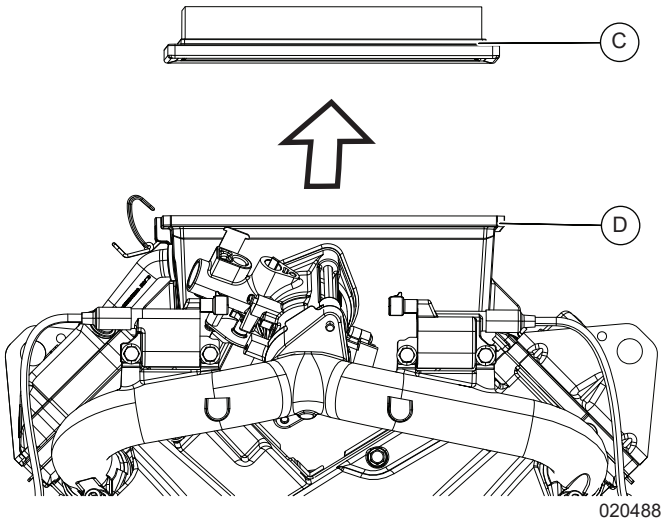

Figure 6-7. Remove Air Filter Media
3. See Figure 6-7. Lift air filter media (C) vertically to remove from air box base (D).